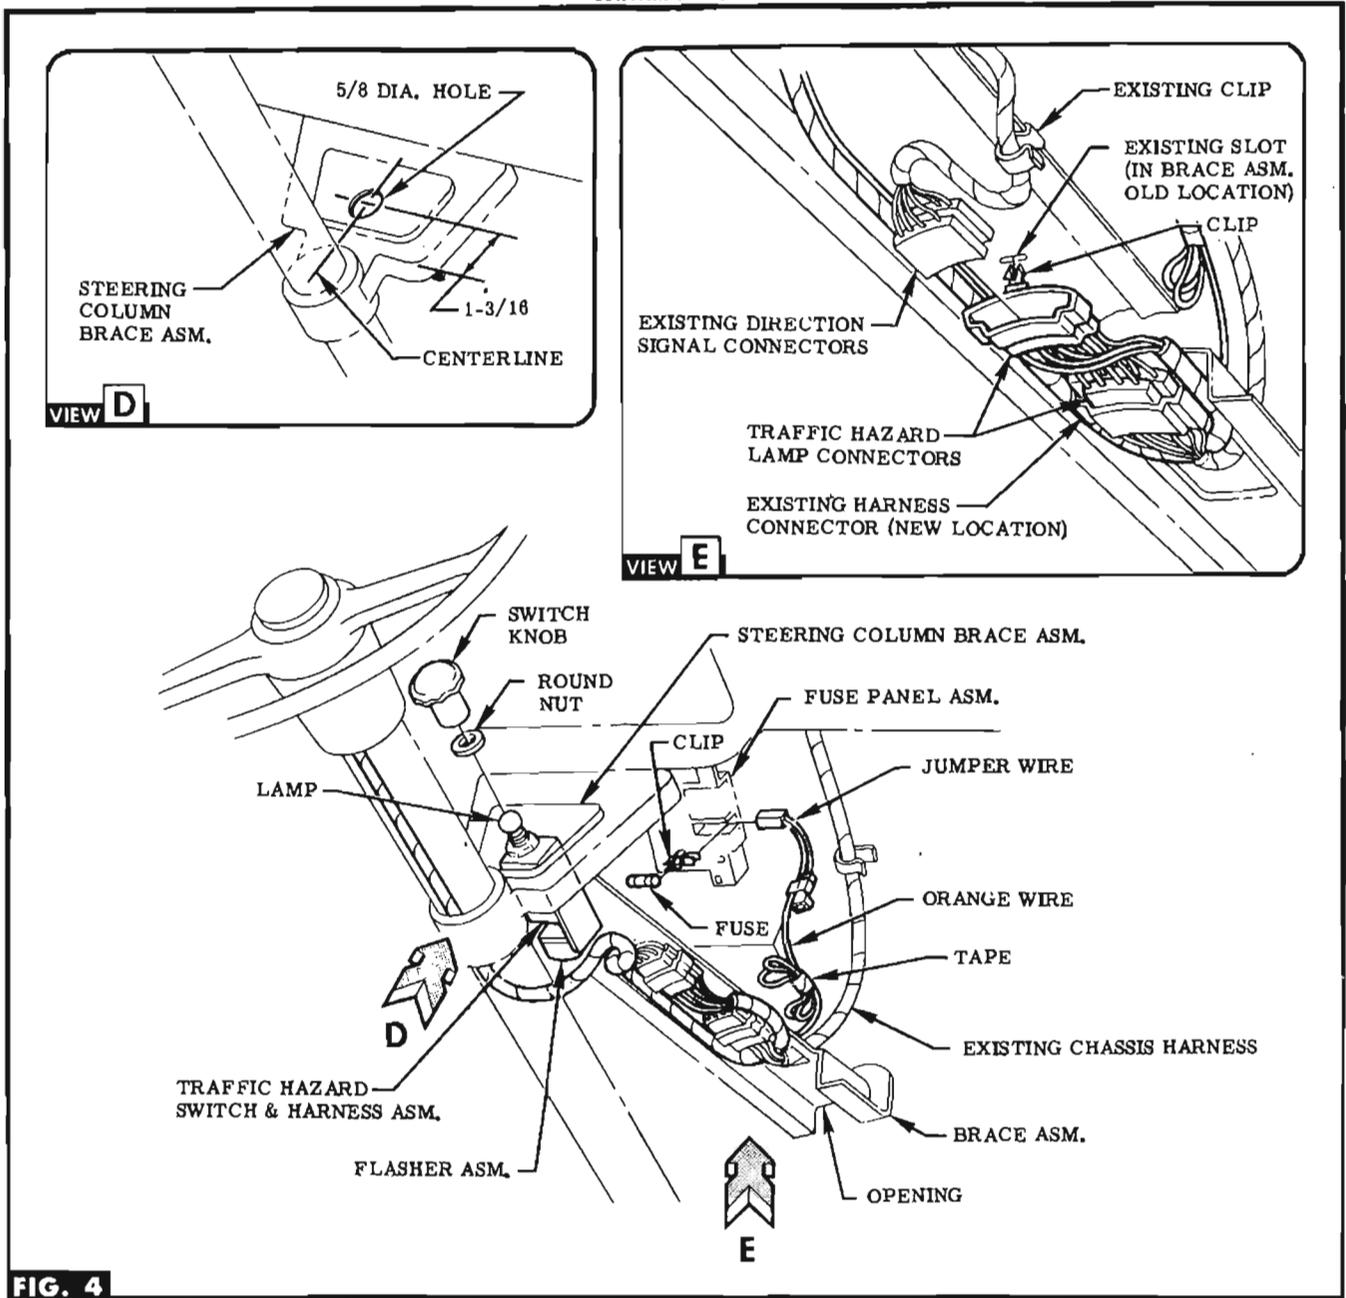

FIG. 4
STEP 3 INSTALL SWITCH & HARNESS ASM. WITH ROUND NUT. ATTACH LAMP, KNOB & FLASHER ASM. SEE FIG. 4.
ORS TO TRAFFIC HAZARD LAMP CONNECTOR, SNUG TRAFFIC HAZARD LAMP HARNESS & ORANGE WIRE UP INTO CORNER OF BRACE ASM. & SNAP TRAFFIC HAZARD LAMP CONNECTOR INTO PLACE. SEE FIG. 4 & VIEW E.
STEP 5 ROUTE ORANGE WIRE FROM SWITCH & HARNESS ASM. UNDER BRACE & UP THRU OPENING IN BRACE TO FUSE PANEL. INSERT FUSE CLIP & FUSE INTO RECEPTACLE IN FUSE PANEL MARKED "HTR" OR "B. U. LPS." PLUG ORANGE WIRE CONNECTOR ONTO CLIP. LOOP & TAPE EXCESS WIRE. SEE FIG. 4. **NOTE** If receptacle is occupied, remove & plug into Jumper Wire.